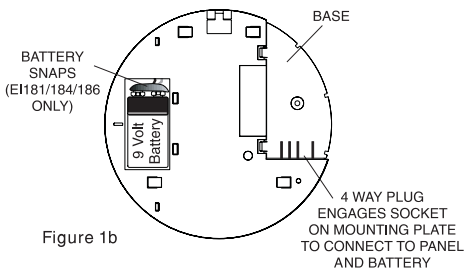

Figure 1b
- CHECK BATTERY IS CONNECTED TO SNAP (SEE FIG 1b). BATTERY WILL NOT POWER THE UNIT UNTIL IT IS SNAPPED ONTO THE MOUNTING PLATE.